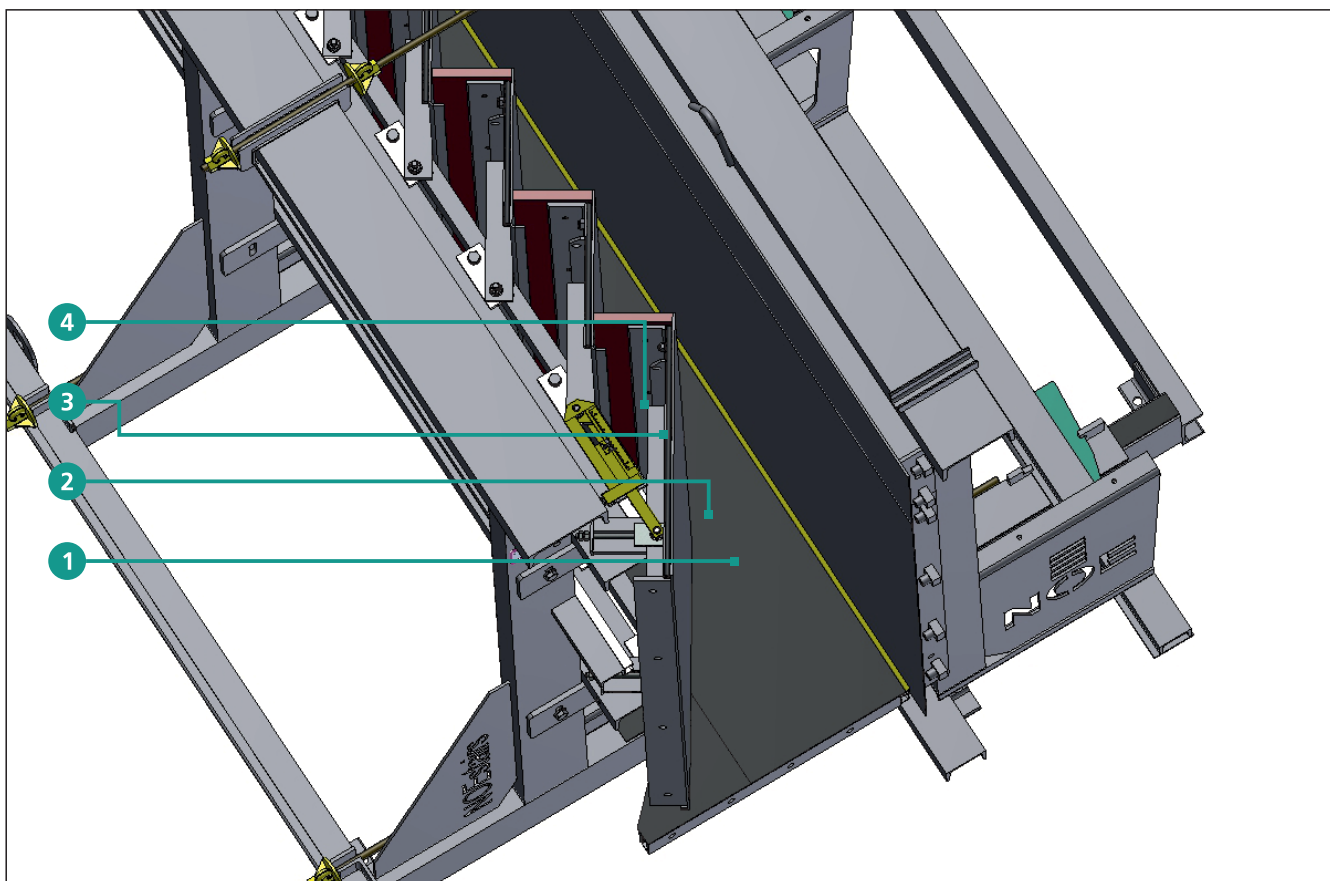

Figure 8.1
After this, with the setting gauge and the setting dimension (Z) derived earlier from the tables on pages 22 and 23, bring the bolt plates one after the other into the correct position and tighten the clamping bolt. To do this, the setting gauge is placed on the ends of the bearing bolts (Figures 8.1 and 8.2).